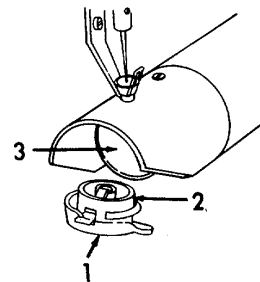

Figure 2-40. Bobbin Case, Removal.
- (6) Next, lead the thread to the right and between the two tension washers (5) of the needle tension adjust and catch the spring (7).
- (7) Draw the thread to the left and behind the lower thread guide (4), and then through the hole in the take-up lever (6).
- (8) Lead the thread down the face of the machine and through thread guides (8) and (9).
- (9) Finally, draw the thread through the needle eye (10) from left to right. Pull and leave out about 4 in. (10 cm) of the thread from the needle eye.
d. Removing Bobbin and Case (Refer to Figure 2-40).